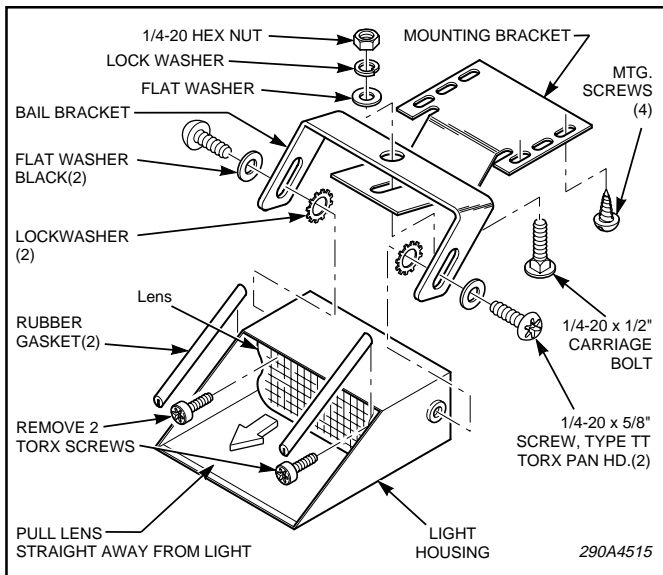

Figure 3.
6. See figure 3. Assemble the bail bracket to the light assembly using the two 1/4" x 5/8" pan head screws, external tooth lockwashers, and black flat washers. Do not tighten the screws at this time. Cut the
rubber gaskets to length and assemble to the sides of the light assembly as shown in figure 3.
7. See figure 3. Assemble the light assembly/bail bracket to the mounting bracket's center slot using the 1/4-20 carriage bolt, flat washer, split lockwasher, and 1/4-20 nut. Do not tighten the nut at this time.
b. Remove and retain the two screws and lockwashers which secure the light assembly to the mounting bracket (see figure 3).